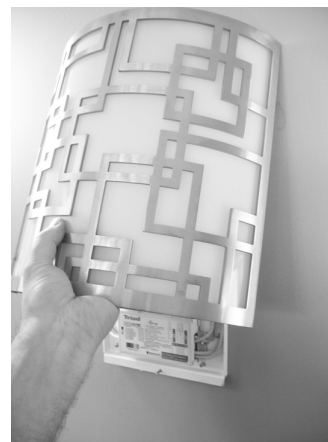

Figure 4
Step 6 Install the decorative cage assembly on the backplate by aligning the standoffs in the cage housing with the holes in the backplate. It will be necessary to tilt the cage assembly at an angle to align the standoffs and then lower the cage into position. (See Figure 4)